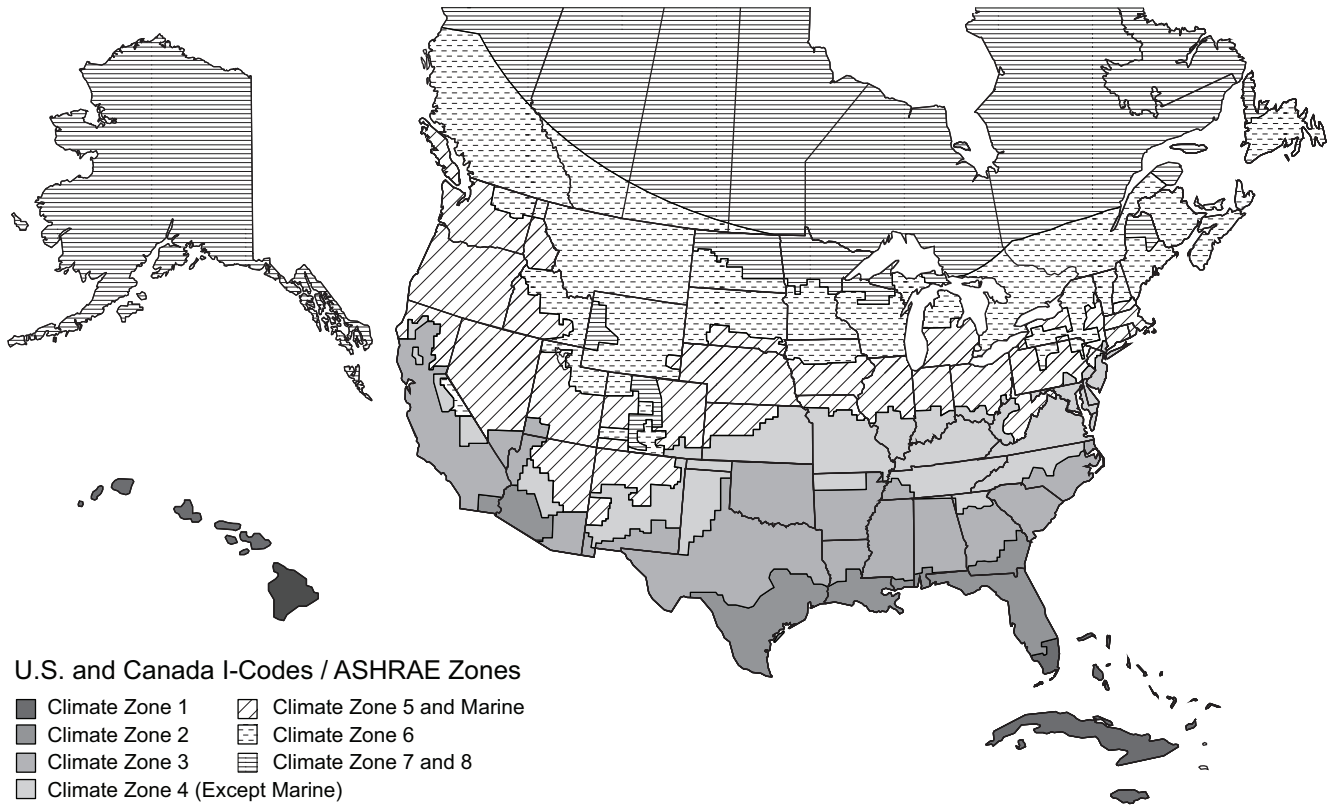

Fig. 70 — U.S. and Canada Climate Zones
- a. See Fig. 70 for map of U.S. and Canada climate zones.